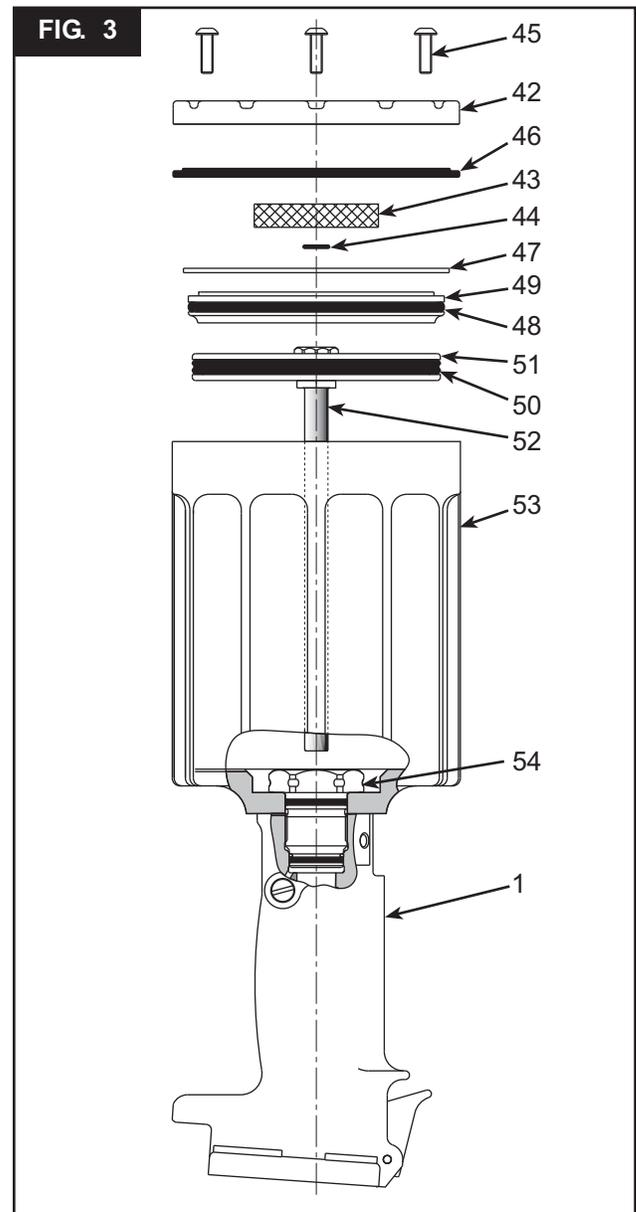

FIG. 3
17. Hold tool inverted in vice. Unscrew three Button Head Screws (45) with 1/8 hex key. (Fig. 3)
18. Remove Muffler End Cap (42), Bottom Exhaust Gasket (46), Muffler (43) and O-ring (44). (Fig. 3)
19. Remove Retaining Ring (47) from Cylinder Assembly (53). (Fig. 3) **NOTE:** Tap cylinder head down into cylinder for easier removal of retaining ring.
20. Screw Button Head Screws (45) into Cylinder Head (49). Carefully pry under screws to remove cylinder head.
23. Grip Self-locking Nut (41) under Air Piston (51) with pliers and pull piston and rod assembly from handle and cylinder assembly. (Fig. 3 & 4)
24. With a 1 3/8 socket and extension, remove Gland Assembly (54). Handle and cylinder will now separate. (Fig. 3)
25. Push Hydraulic Piston (31) out of handle. Push out from top to bottom.
1. Holding handle inverted in a vice, place Cylinder (53) on handle with Timing Pin positioned in matching hole. Assemble Gland Assembly (54), screw it into handle, and torque to 75-80 ft. lbs. using 1 3/8 socket wrench.
2. Push Air Piston/Rod assembly with Quad Ring (50) in place into Air Cylinder until it bottoms at top of Cylinder. (Fig. 3)
5. Hold handle in vise with bottom facing up. Push Cylinder Head (49) with O-ring (48) in place squarely into cylinder. Install Retaining Ring (47). (Figs. 3 & 9)
6. Position O-ring (44) and Muffler (43) on center of Cylinder Head (49). Place Gasket (46) on Cylinder Assembly (53). **NOTE: Lip must face Muffler End Cap (42).** Place Muffler End Cap (42) on top of Gasket (46), and secure with 3 Button Head Screws (45) using 1/8 hex key. (Fig. 3)
7. Turn tool upright. Drop Spring (40) into Throttle valve hole in cylinder. Push Throttle Valve (36) with O-rings (37 & 39) in